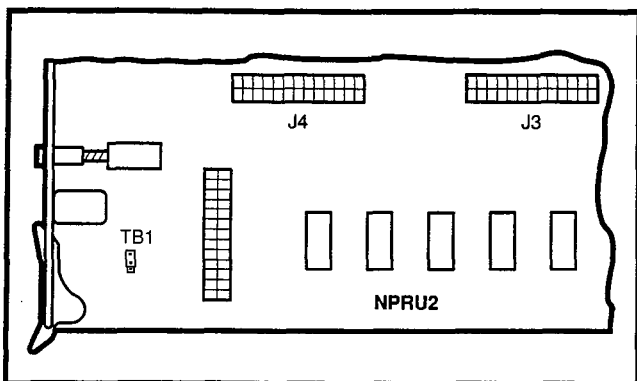

FIGURE 4-15—NPRU STRAPPING
3.31 The NPRU has one strap that requires verification before installation (Figure 4-15). If Automatic Wake-up is required, verify that the DROM is installed in the IC15 socket. Install the NPRU in the P00 slot. (An NPRU must be installed in the P00 card slot.) If a second NPRU PCB is used, install it in the P01 slot in the PERCEPTION_e expansion cabinet. In PERCEPTION_{ex}, both NPRUs are installed in the basic cabinet. Verify that TB1 is strapped as follows: